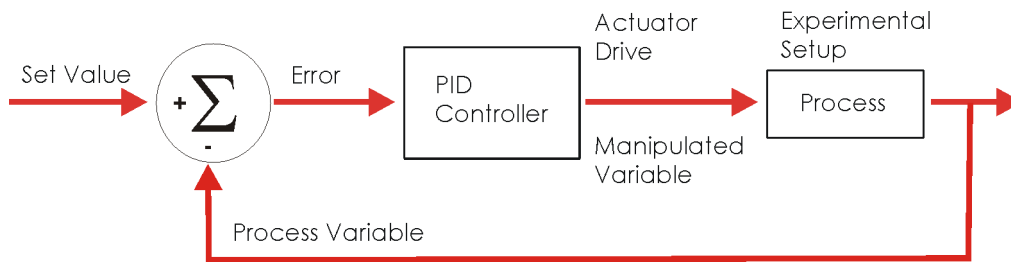

Figure 128 PID controller feedback loop
To obtain a good lock, it is necessary to optimize the gain settings of the PID controllers. Once a suitable Lock-In Output signal (Error signal) is at hand, the feedback loop (see Figure 128) can be closed and optimized. The general working principle of the Proportional-Integral-Differential (PID) controller is to minimize the deviation of a physical measure (Process Variable) from a selected Set Value by modifying the actuator drive (Manipulated Variable) accordingly. The output of the controller is a weighted sum of the integral (I), proportional (P), and differential (D) paths scaled by the overall gain. The digital PIDs in the DLC pro allow for a precise and reproducible control of the gain settings.